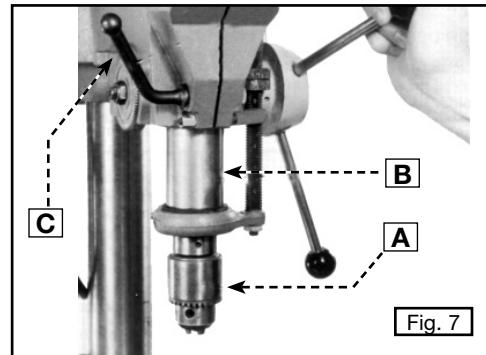

Fig. 7
1. Lower the spindle (A) Fig. 7 approximately 3" and lock the quill (B) in position by turning the locking lever (C) clockwise.